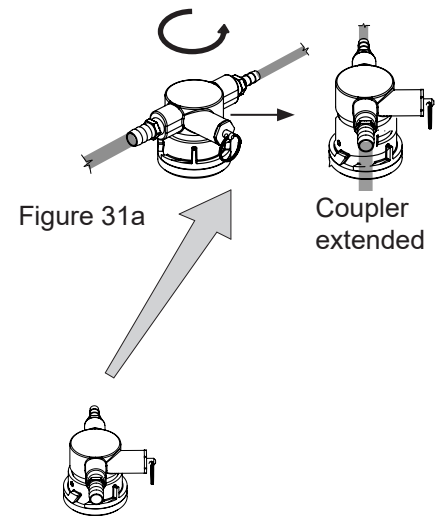

Figure 31a
- Hooking up the keg coupler to the keg: Verify the coupler is in the "OFF" position (see Figure 31a). Align the lugs on the keg with the corresponding openings on the keg coupler and turn clockwise until the coupler stops (about 90°). Push down and twist the top of the coupler clockwise to allow gas to enter the keg.